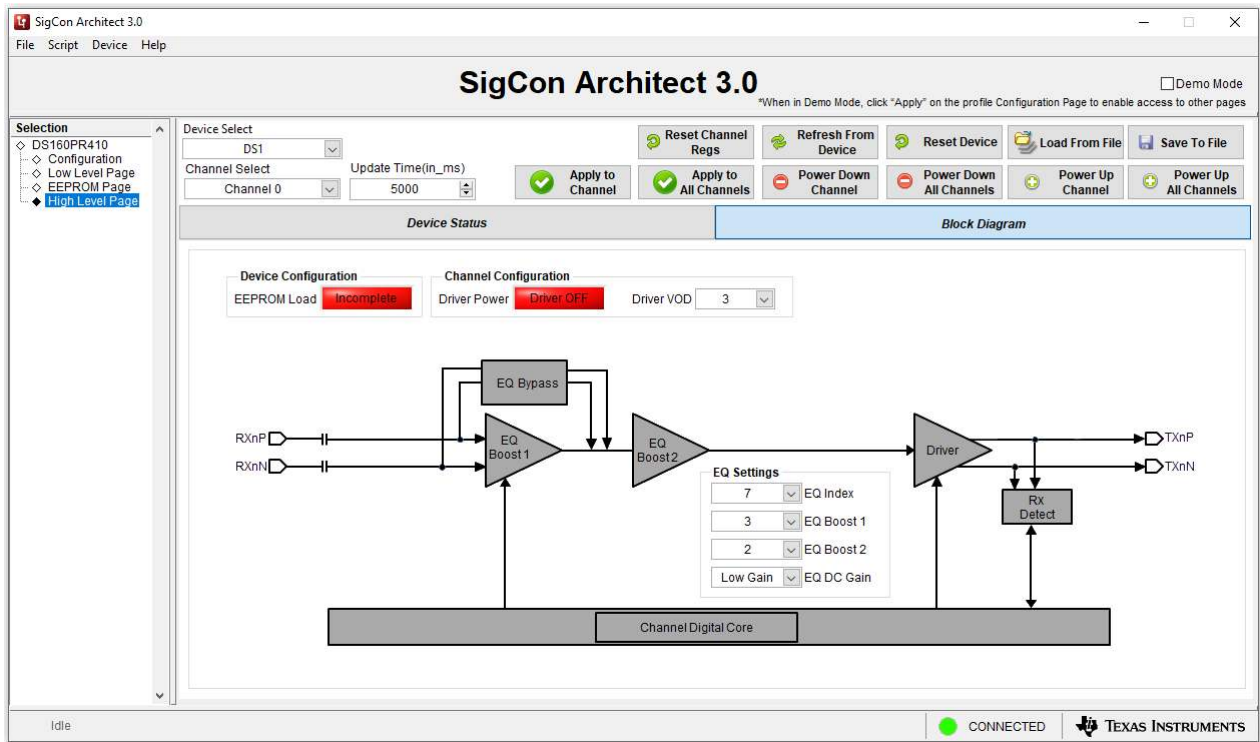

Figure 1-1. SigCon Architect DS160PR410 High Level Page
- Check that the shunts are at the following positions as shown in Figure 1-1.
- The board is configured for any PCIe bus width (PRSNT signal controls set as shown in Figure 1-1 using J6, J7, J8, and J9 headers).
11. In the DS160PR410 High Level Page, select Block Diagram as shown in Figure 1-1.